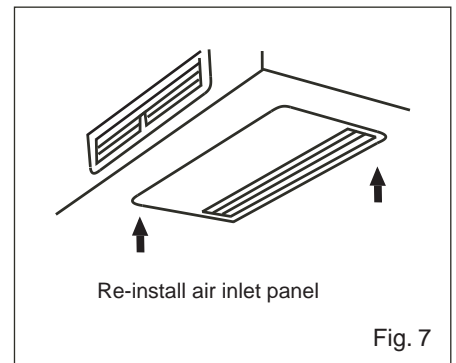

Fig. 7
- 6) Re-install Indoor Unit's air inlet panel, by the reverse procedure of that carried out for removal (Fig. 7).